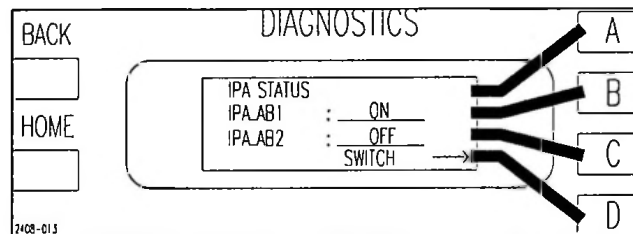

Figure 2-8 IPA Status and Manual Switch
STEP 9 For the dual IPA configuration, the IPA will be identical to any of the PA modules and may be plugged in with either side up in the IPA slot. To see which IPA is active press [HOME, STATUS D,B]. This should bring up the screen shown in Figure 2-8. If the transmitter is configured with only a single IPA, then one half of the module will be empty. It is recommended that the IPA module be inserted with the amplifier on the right side of the heatsink. This places the amplifier in the IPA_AB1 position (the default for the controller). If the IPA is on the left side of the heatsink when inserted, then IPA_AB2 will have to be selected before operating the transmitter. To select IPA_AB2 press the [D] or switch key to toggle from IPA_AB1 to IPA_AB2 and back.